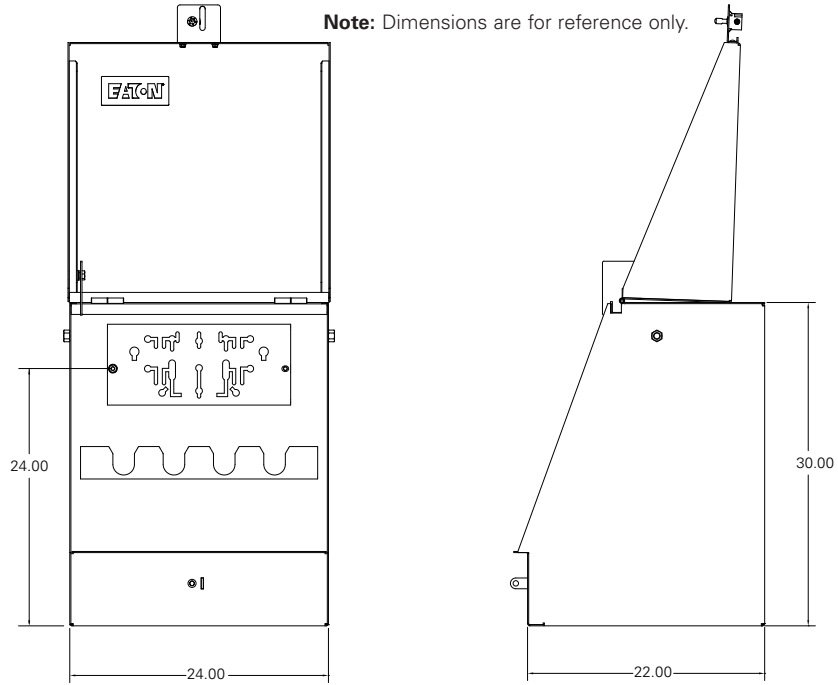

Figure 1. SEC12423F0000M0G SecTER cabinet shown.
**Table 3. Fiberglass Ground Sleeve Dimensional Information in Inches (Reference Figure 1)**